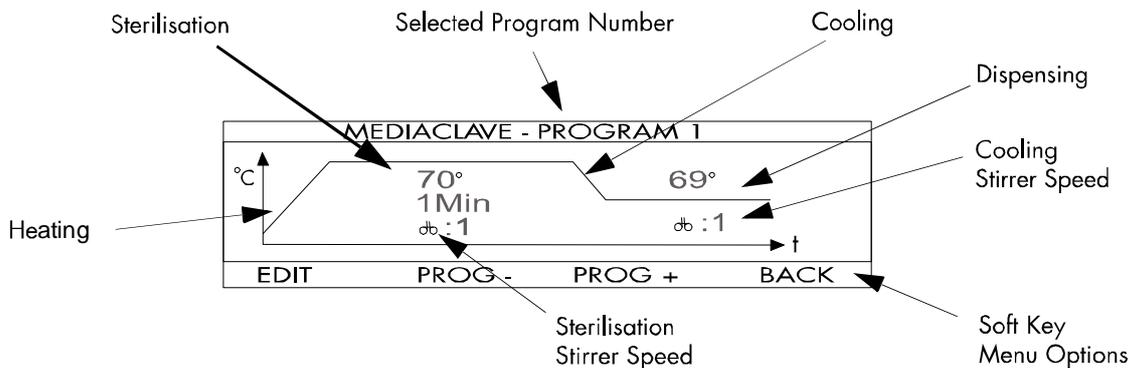

Figure 4.1: The MEDIACLAVE PROGRAM [#] Screen
Figure 4.1 illustrates the progress of the sterilisation cycle as displayed on the MEDIACLAVE PROGRAM [#] screen.
1. Press **MEDIACLAVE** on the start display (see section 3.4.1). The MEDIACLAVE PROGRAM [#] screen appears (see figure 4.1)